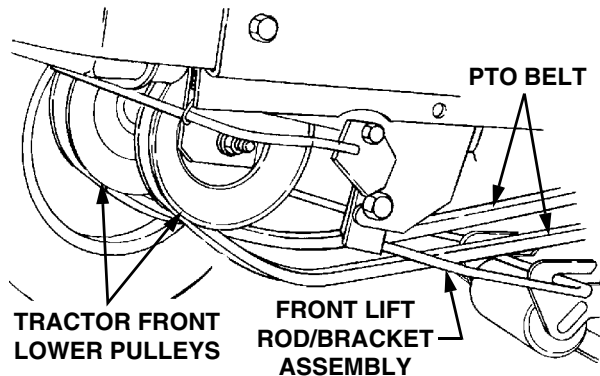

Figure 37
5. Pass the PTO belt downward, inside the tractor frame, until the belt is below the two tractor front lower pulleys and pull the belt clear of the tractor (See Figure 37).